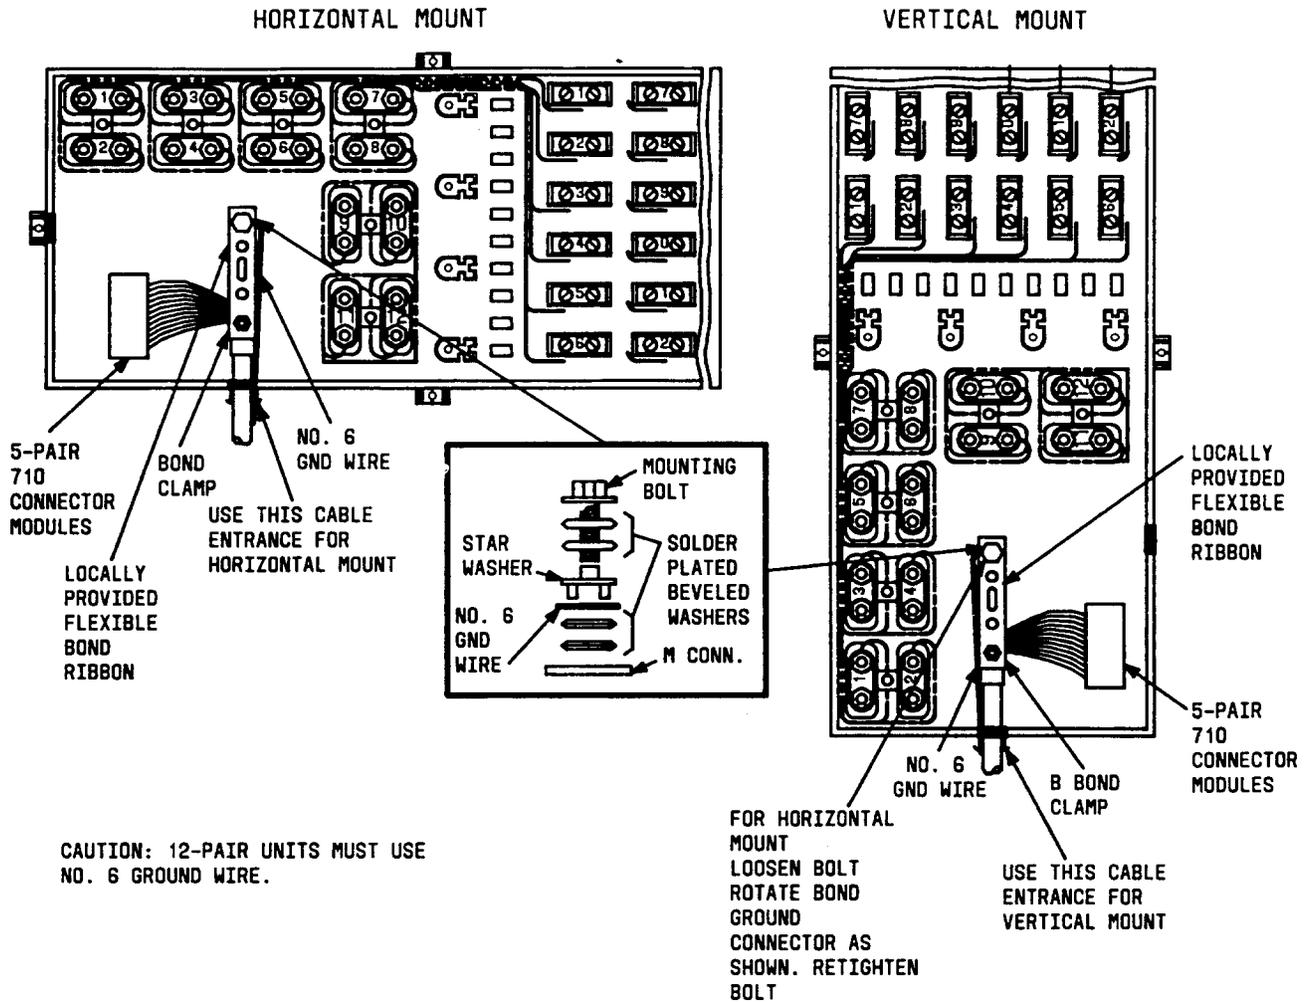

Fig. 15—Bonding and Grounding of 125-Type Protectors When Used With 25-Pair (or Smaller) Cable
5.10 When 125-type protectors are used with cable, the protectors and cable must be bonded and grounded as follows (Fig. 15):